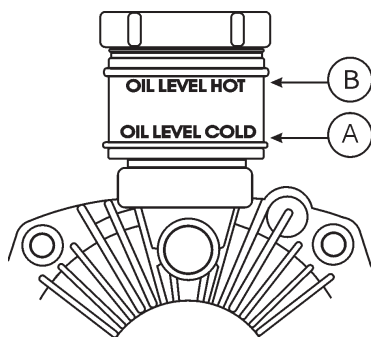

Figure 52. Transmission Reservoir
Check every 8 hours of operation. When the transmission is **cold** (A), check oil level against the level indicator (see Figure 52).